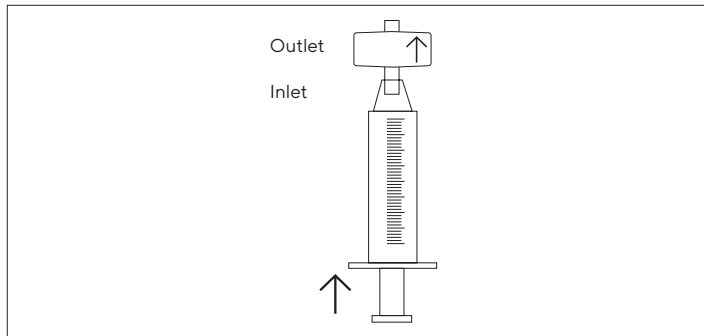

Fig. 7: Filling the Sartobind[®] Nano with a Luer syringe for air removal
- ▶ Fill a 10–20 mL Luer syringe with equilibration buffer and connect to the capsule, then hold capsule upright (outlet is up) and expel air as shown in Fig. 7.